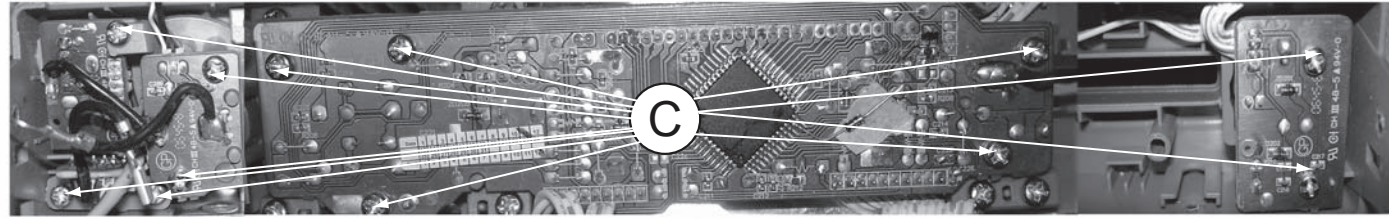

Figure 6
- 1) Loosen 12 screws "C" at the top of Control Board as shown in figure 6